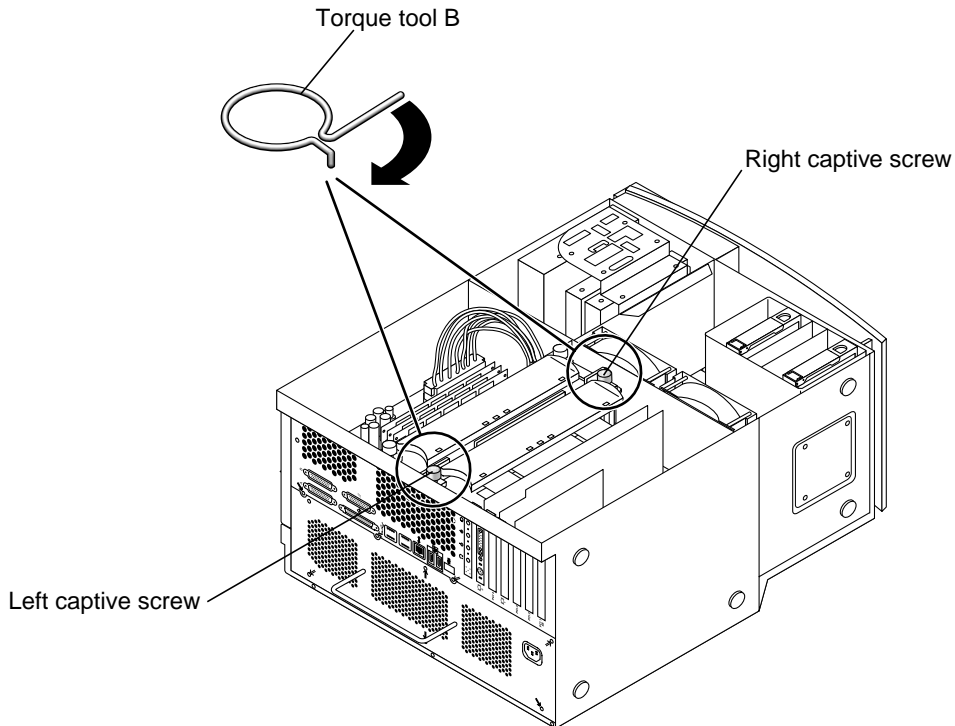

FIGURE 12 Alternately Rotating Left and Right Captive Screws One Turn Clockwise
5. Use torque tool B to rotate the left captive screw one turn clockwise (see FIGURE 12).
6. Now, use torque tool B to rotate the right captive screw one turn clockwise (see FIGURE 12).